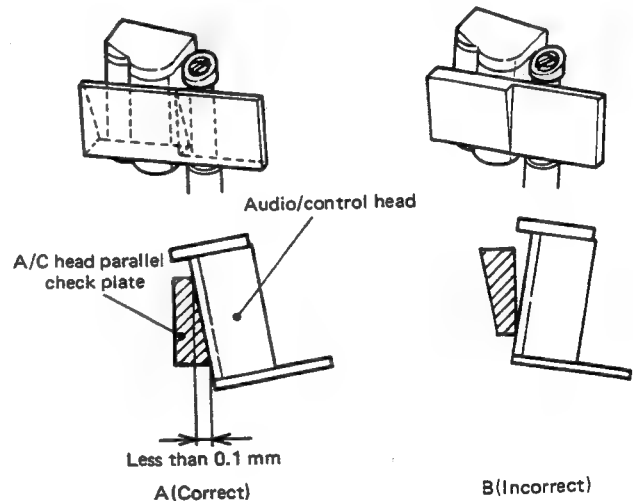

Fig. 2-55
2. Put the A/C head parallel check plate against the audio/control head as shown in Fig. 2-55 and confirm that the inclination is less than 0.1 mm as shown by A.